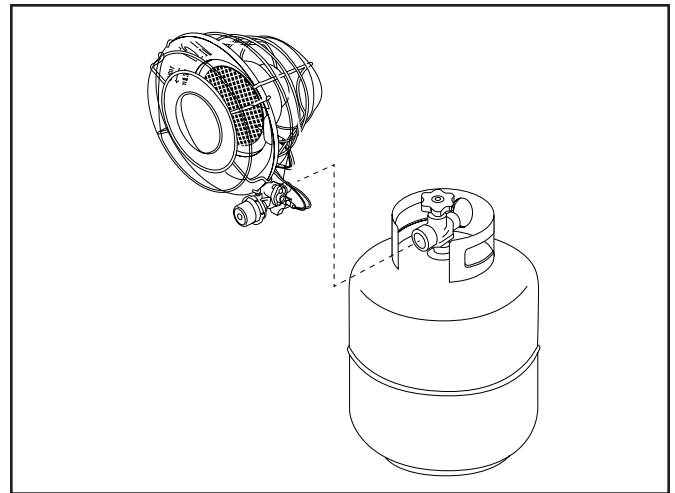

Figure 2a.
- Insert regulator connector into tank valve outlet fitting and turn left (counter- clockwise) until fully tightened. Do not overtighten. (See Figure 2a)